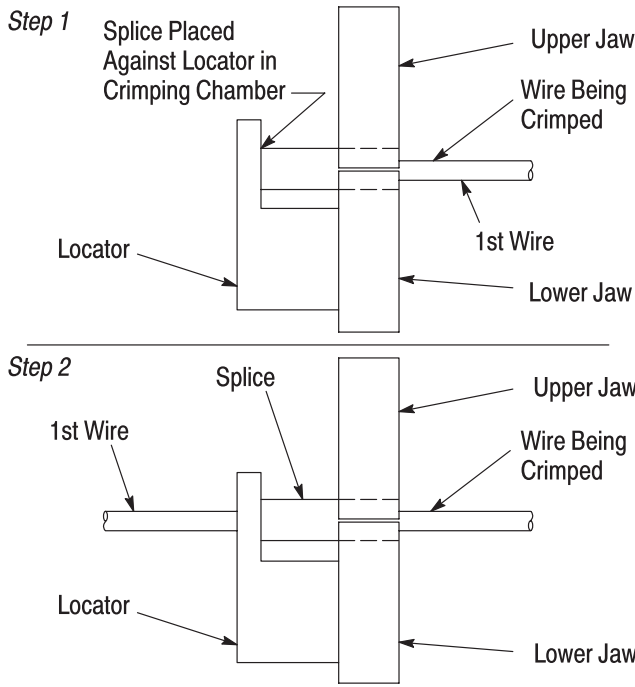

Figure 3
2. Place the splice against the locator in the appropriate crimp chamber. See Figure 3.